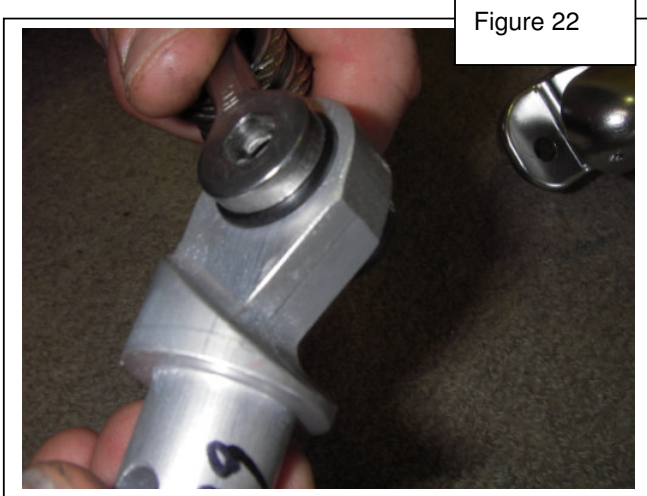

Figure 22
16. Assemble knuckle to down tube using countersunk screw (item 7 of drawing 6481) and 243 loctite.
18. Coat the 4 "O" rings (item 16 of drawing 6481) in dry lube. Place the O rings into item 17 of drawing 6481, as shown in figure 22.
19. put the side wires (items 11 and 12) over the D shackle (item 4 of drawing 6481). Fit shackle over "O" rings on knuckle as shown in figure 22.
22. Coat shoulder bolt (item 8 of drawing 6481). in dry lube.
23. Fit shoulder bolt (item 8 of drawing 6481). and lightly tighten. NO LOCTITE GOES ON THIS BOLT. The bolt should be installed so that it is seated finger tight, it is not to be over tightened.